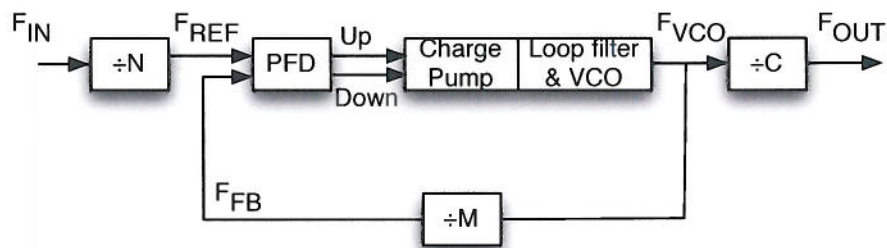

Figure 2.1 A Phase Locked Loop
2. a) Figure 2.1 illustrates a common Phase Locked Loop (PLL) system. Provide a description of its operation. [ 5 ]